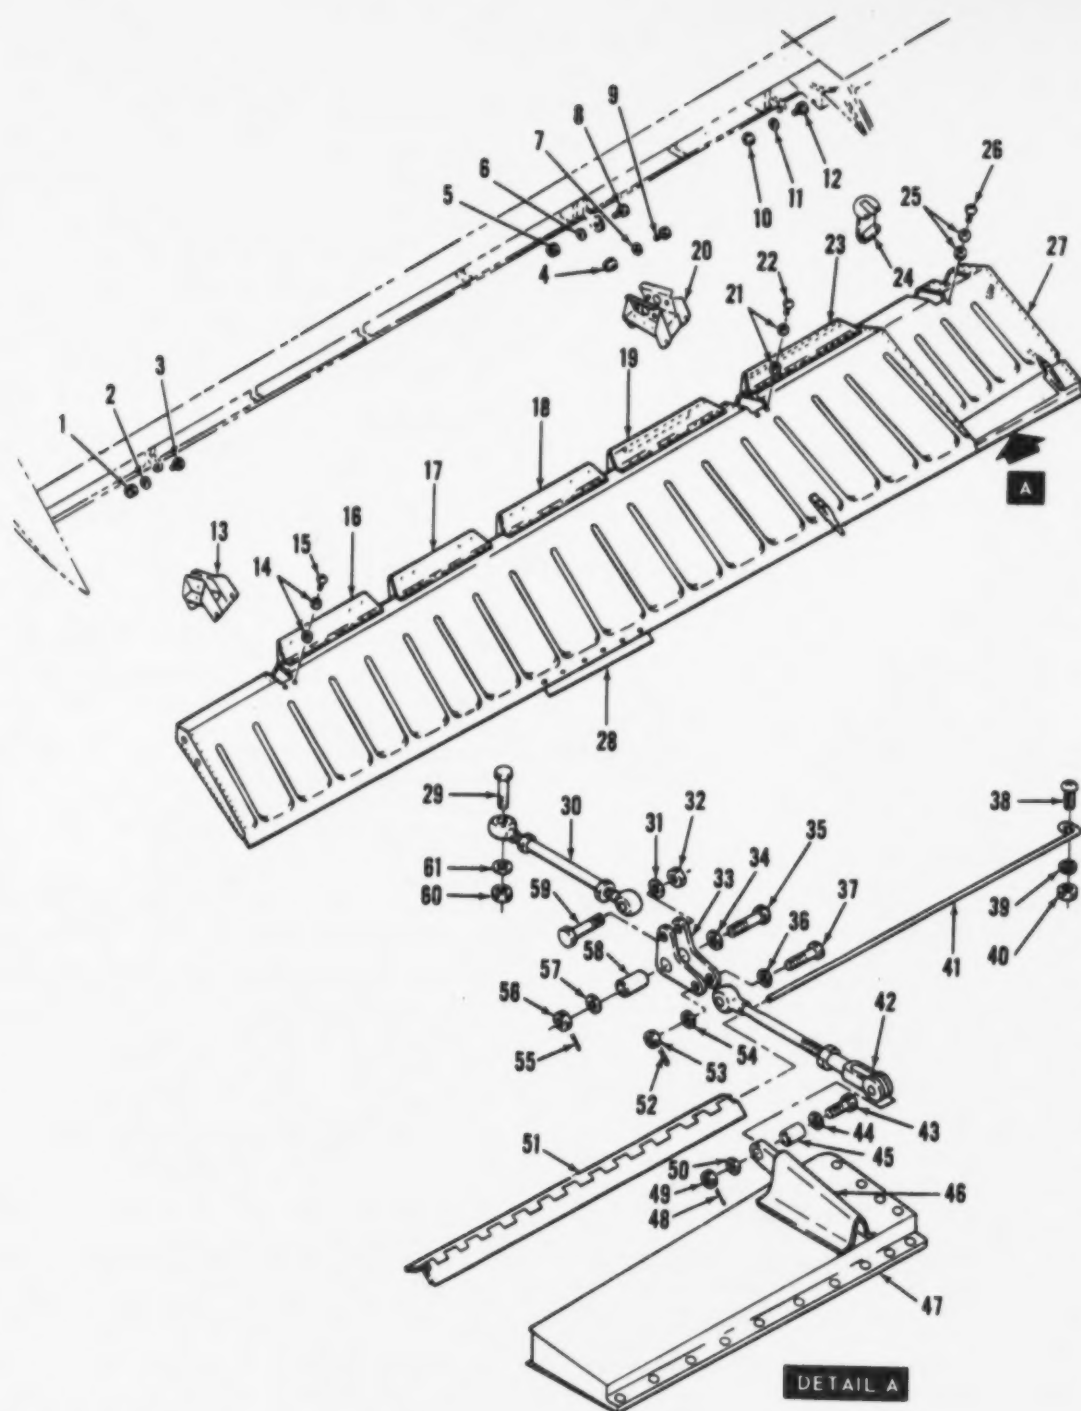

Figure 9-1. Aileron installation (sheet 1 of 2)
c. Inspection. (1) Inspect ailerons for dents, cracks, corrosion, and loose or missing rivets.
(2) Inspect aileron brackets for bends, cracks, elongated bolt holes and corrosion.
d. Installation. (1) Remove screws (15, 22, and 26, figure 9-1) and remove aileron brackets (13, 20, and 24) from each aileron (27).